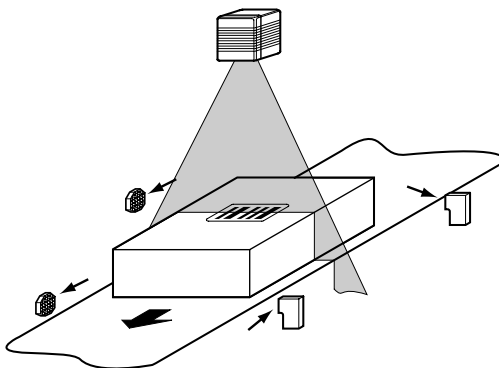

Figure 10.2: Cleaning the external optical sensors (reading cycle clock generator, object height detection)
- Also clean the optical surfaces of sensors (e.g. retro-reflective photo electric sensors) for external reading cycle generation and/or object height detection (Figure 10.2). Fouling may cause erroneous switching.